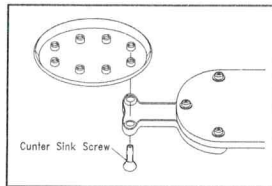

Figure 7
- Obtain countersink screw. See Figure 7